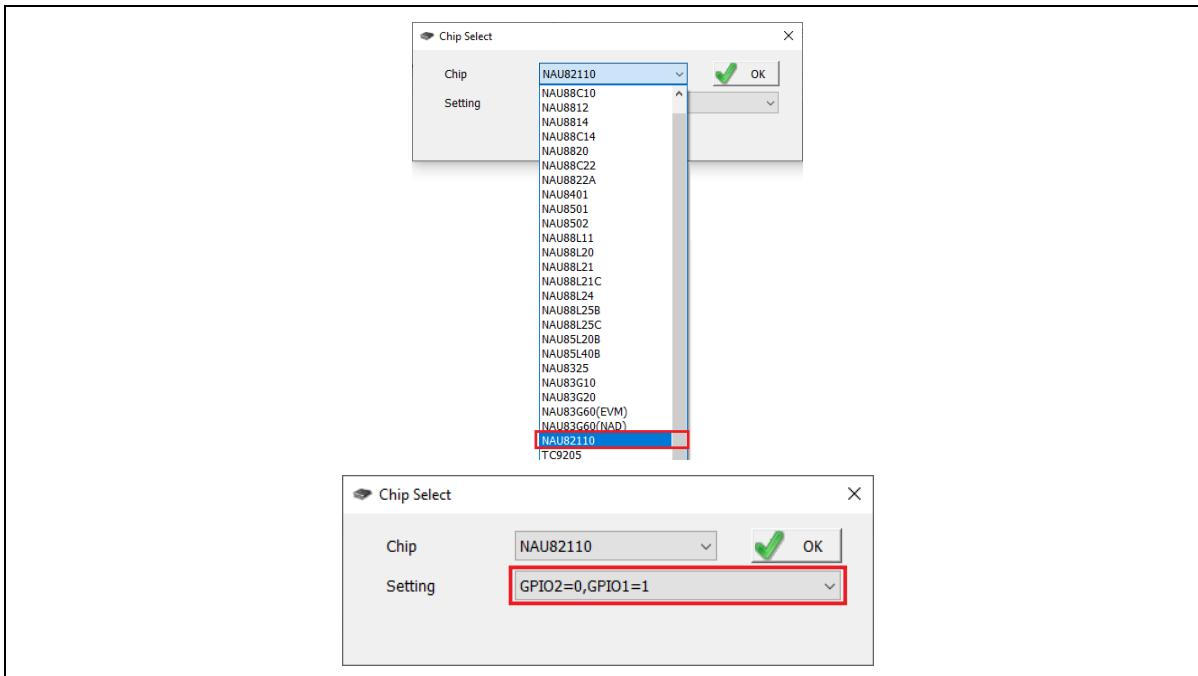

Figure 3-4 NuvotonAudioGUI Operating Step (1)
1. Open NuvotonAudioGUI, choose the corresponding IC Part Number, address setting of I²C(check by J5, J6), and click [OK], as shown in Figure 3-4.